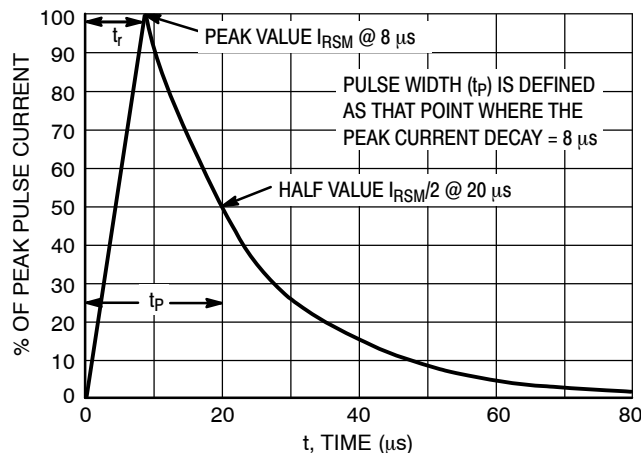

Figure 5. 8 X 20  $\mu$ s Pulse Waveform
- Surge current waveforms per Figure 5.